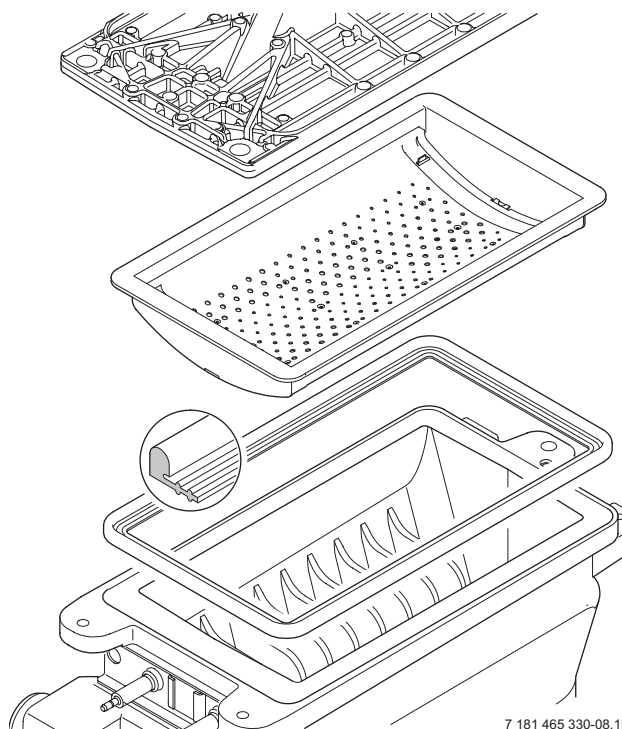

Fig. 53
- ▶ Remove the burner skin and clean components. Do not use a wire brush. Refer to fig. 53.